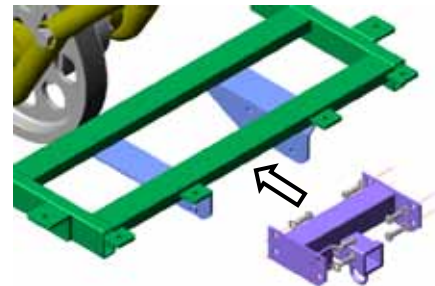

Figure 80
- Install hitch receiver to trike Body Frame with supplied eight 5/16"-18 x 1" L Hex Bolts and 5/16" SAE Flat Washers. Figure 80